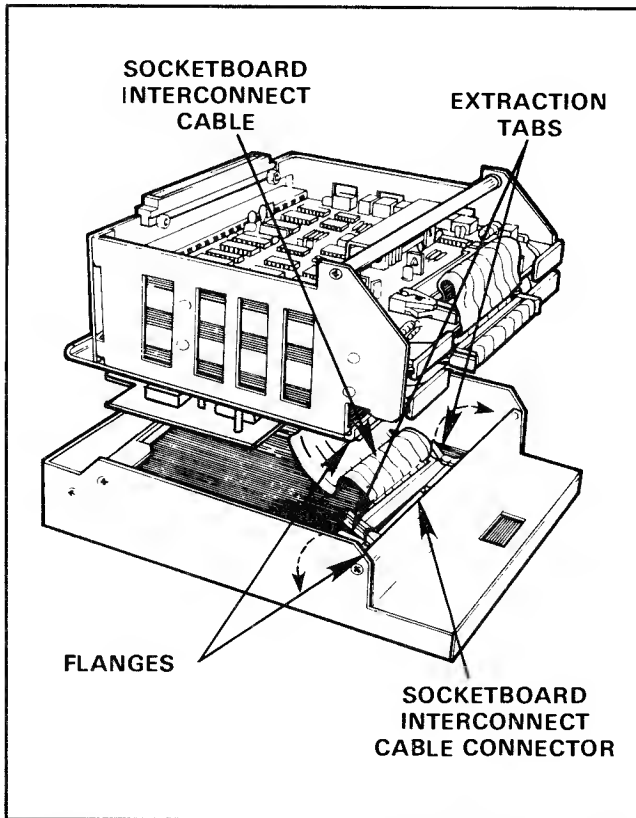

Figure 4-2. Socketboard Interconnect Cable Disconnect
5. Lift the card cage up until you can see the socketboard interconnect cable and its connector (figure 4-2).
6. Flip the extraction tabs out on each side of the connector (figure 4-2).
8. Plug the socketboard interconnect cable into its connector on the socketboard (figure 4-2).